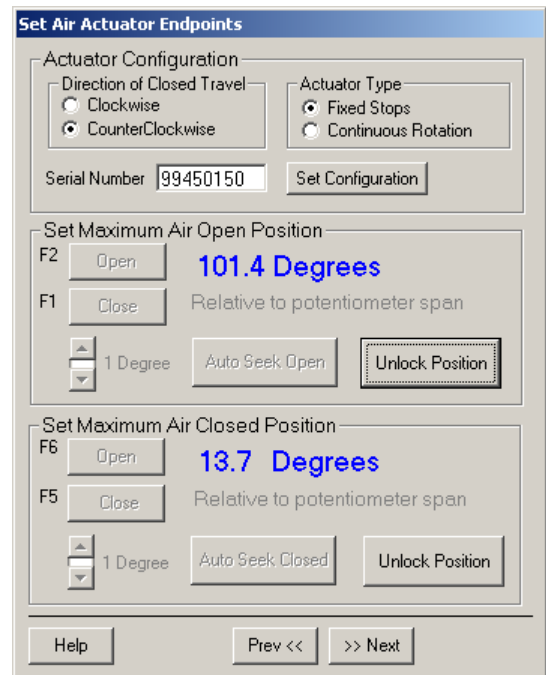

Fig. 13. Lock actuator open position.
- 9. Lock actuator open position. See Fig. 13.